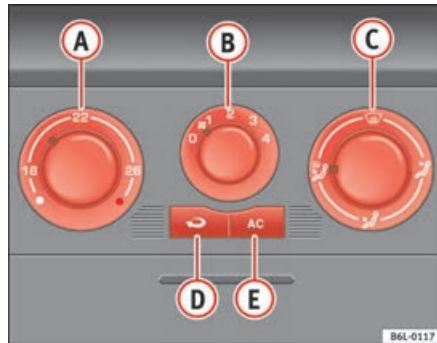

Fig. 95 On the instrument panel: air conditioner controls
- Disconnect the cooling system using button ⇒ fig. 95 **[AC]** (the button light goes off).
- Set the air distribution control **C** to the air flow configuration desired: (W) (towards the windscreen), (C) (towards the chest), (F) (towards the foot rest) and (W+F) (towards the windscreen and foot rest areas).
When air recirculation mode is switched on (button  ⇒ page 123, fig. 95) with warning lamp) strong odours in the outside air do not enter the vehicle interior, for example when passing through a tunnel or in queuing traffic.